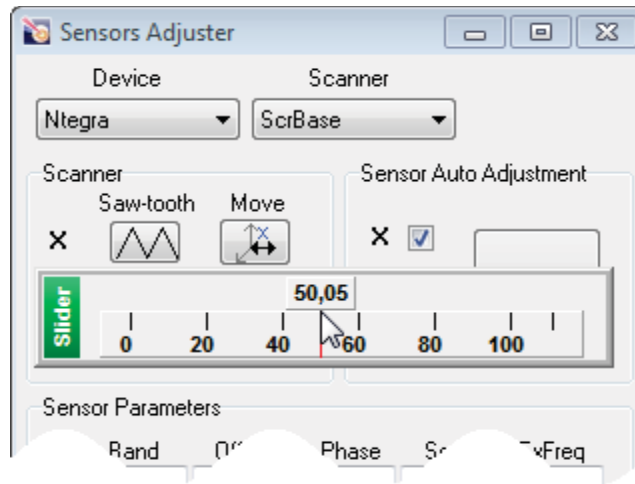

Fig. 1-8
- click the **Move X**  button and using the slider which appears set the scanner position on the X-axis in the middle of the scan range (Fig. 1-8);